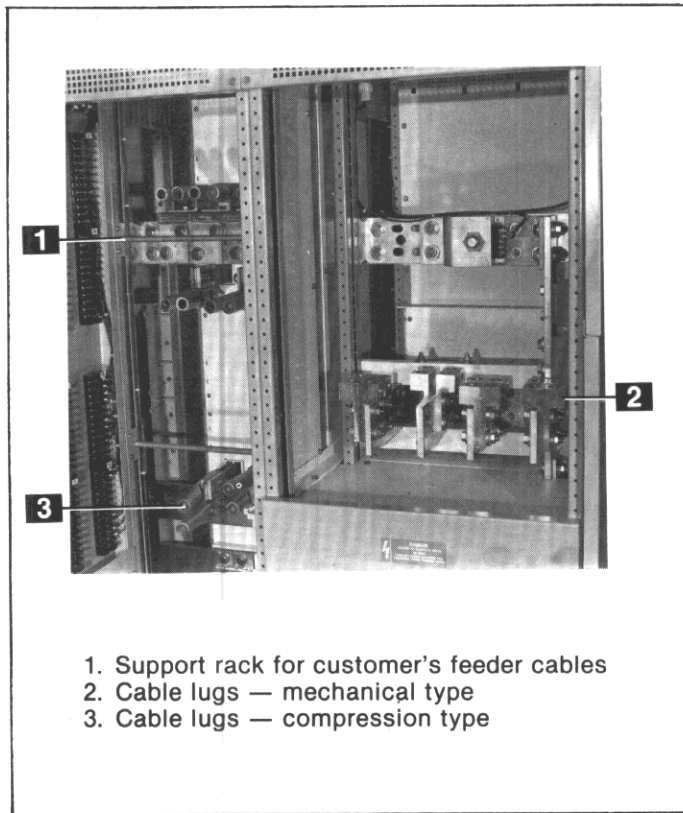

Fig. 3-28. Cable termination provisions
The rear cable and terminal compartment, Fig. 3-28, provides for cable installation and terminations. The cable bending space meets the requirements of the 1981 National Electric Code. Various arrangements of single or double cable terminals are provided, depending upon the purchaser's requirements.
When specified, racks (1), Fig. 3-28, for the support of feeder cables are located in the cable compartment. The actual support of the cables is provided by lashing them to these racks.